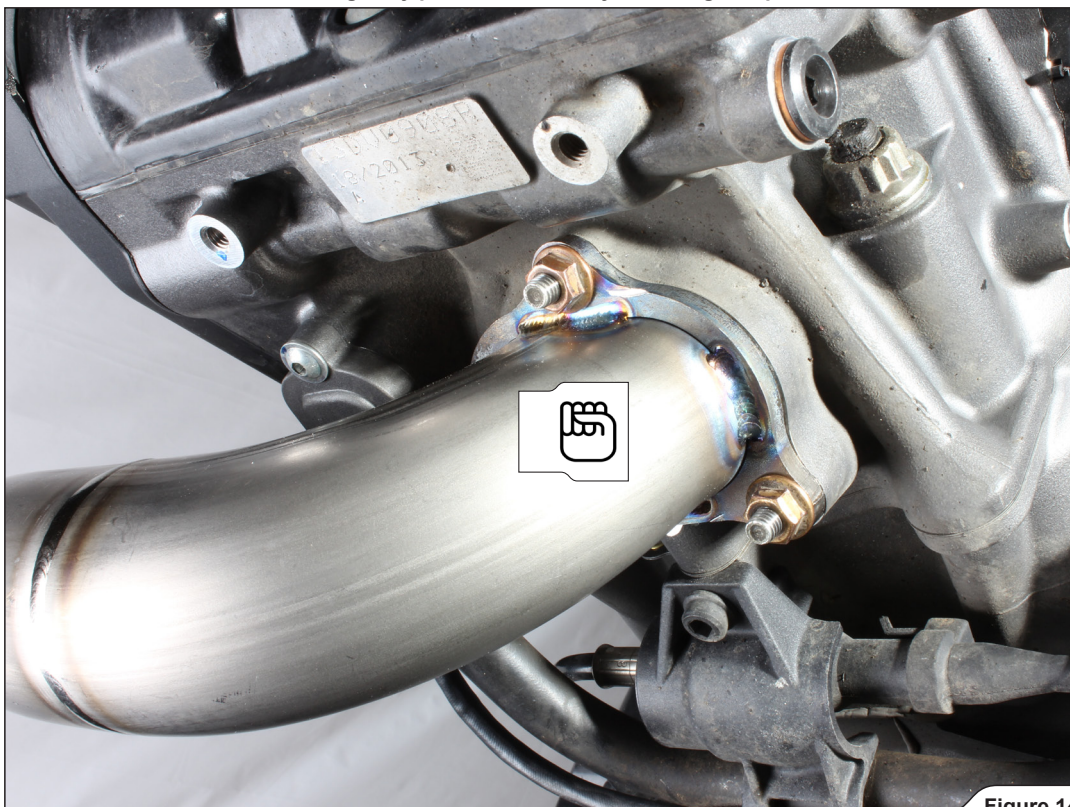

Figure 14
1. Hand tighten the front header onto the cylinder head, using stock nuts (Figure 14).